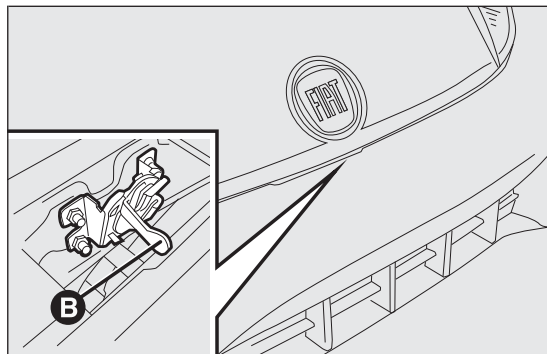

fig. 83
- ☐ operate the lever B fig. 83 and lift the bonnet;